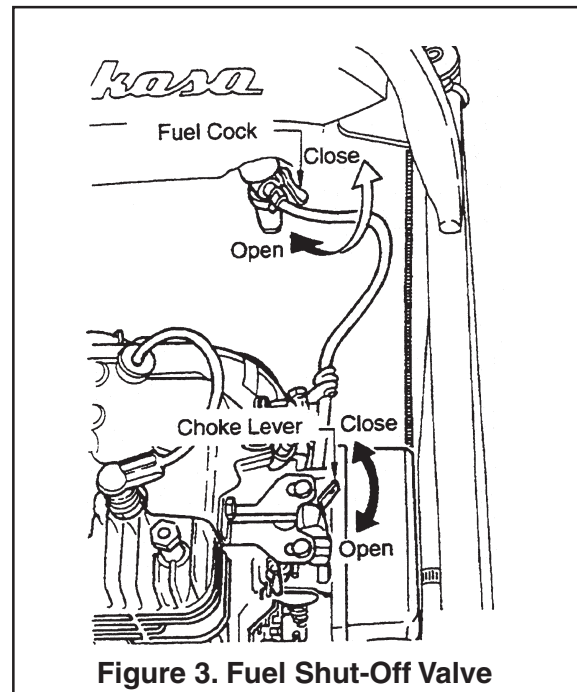

Figure 3. Fuel Shut-Off Valve
1. Open the shut-off valve by moving the strainer lever downward (Figure 3), then set the engine start/stop switch (Figure 4) to the "START" position.
2. Close the choke lever Figure 3 and move the throttle lever to the "**Full Open**" position. Turning the choke lever 90 degrees clockwise closes the choke. In cold weather, start the unit with choke fully closed. In warm weather or when the engine is warm, the unit can be started with choke halfway or completely open.
4. If engine fails to start, move the choke lever (Figure 3) to the half open position to avoid flooding.
2. Close the fuel shut- off valve by moving the strainer lever upward. See Figure 3.